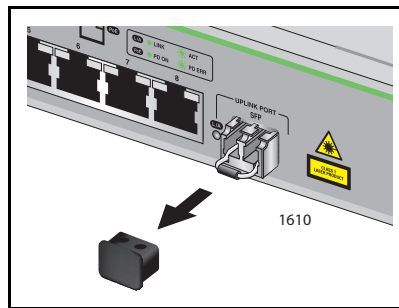

Figure 11. Removing the Dust Cover from the SFP Transceiver
1. Remove the dust cover from the SFP transceiver, as shown in Figure 11.